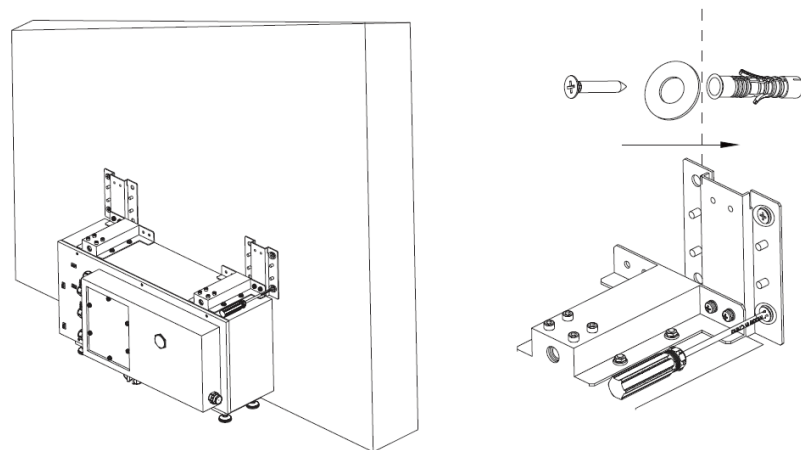

Figure 15 Mounting Battery
Step 5 Insert the expansion tube into the drilled hole. Pass the expansion screw through the gasket and lock with a screwdriver, as Figure 15 shows.